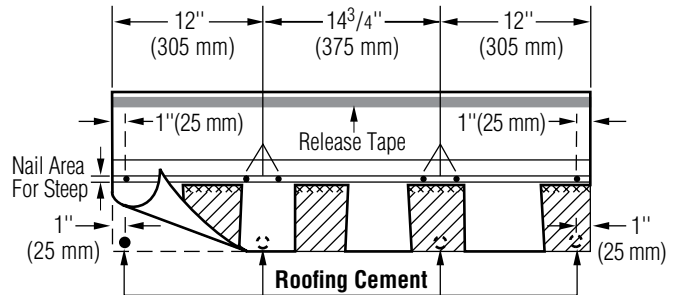

Figure 11-5: Use six nails and four spots of asphalt roofing cement on steep slopes.
**IMPORTANT:** When "six nailing" a full shingle, follow the nail pattern shown in figure 11-5, nails can be placed in the 1-1/2" nailable area.